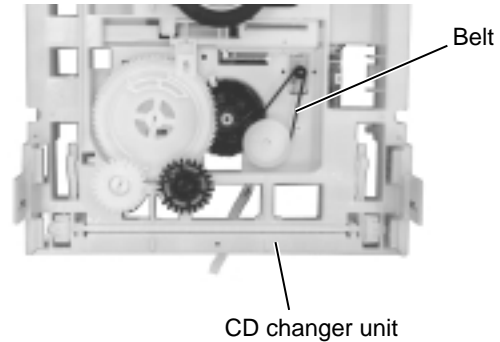

Fig.40
■ **Removing the belt, the CD servo board and the switch board (See Fig.40 and 41)**